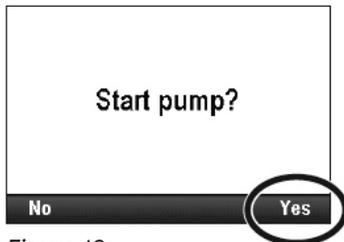

Figure 10:
2. When **Start Pump?** appears, press **Yes**. See Figure 10.